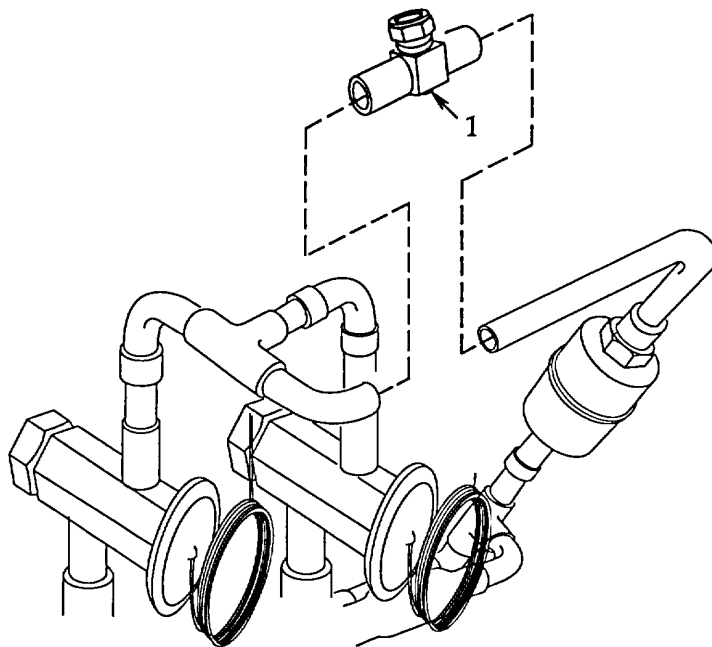

Figure 5-11. Liquid Indicator
- a. **Removal.** See figure 5-11.
b. **Installation.** See figure 5-11.